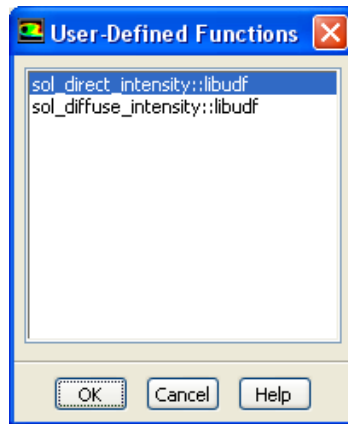

Figure 6.2.25: The User-Defined Functions Dialog Box
Select Discrete Ordinates (DO) from the Model list, and select Solar Ray Tracing in the Solar Load group box. In the Illumination Parameters group box that appears, select user-defined from the Direct Solar Irradiation or Diffuse Solar Irradiation drop-down list to open the User-Defined Functions dialog box (Figure 6.2.25).